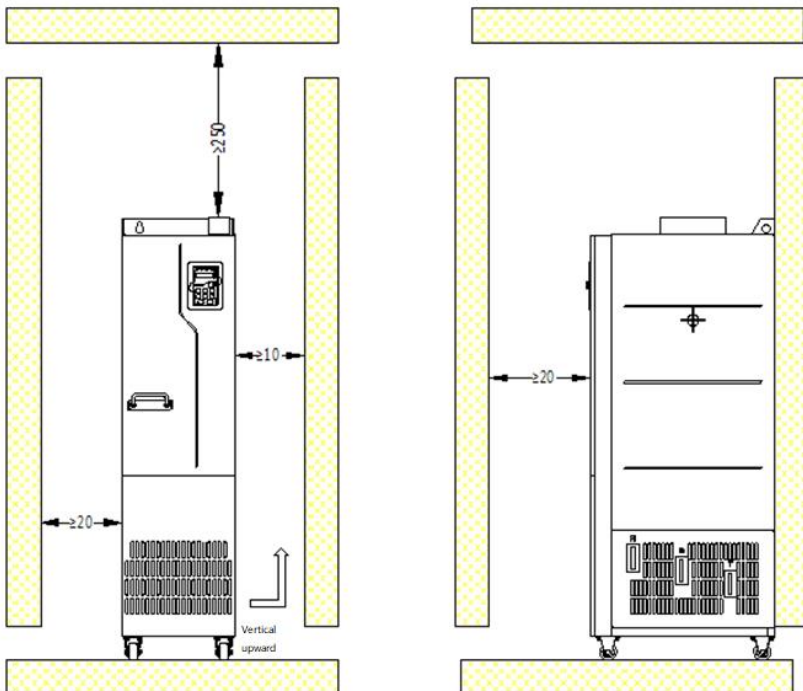

Figure 4–9 Mounting space requirements
- ◇ Figure 4–9 shows the mounting space. You not only need to reserve enough heat dissipation space for the VFD but also need to consider the heat dissipation condition for other devices in the cabinet.